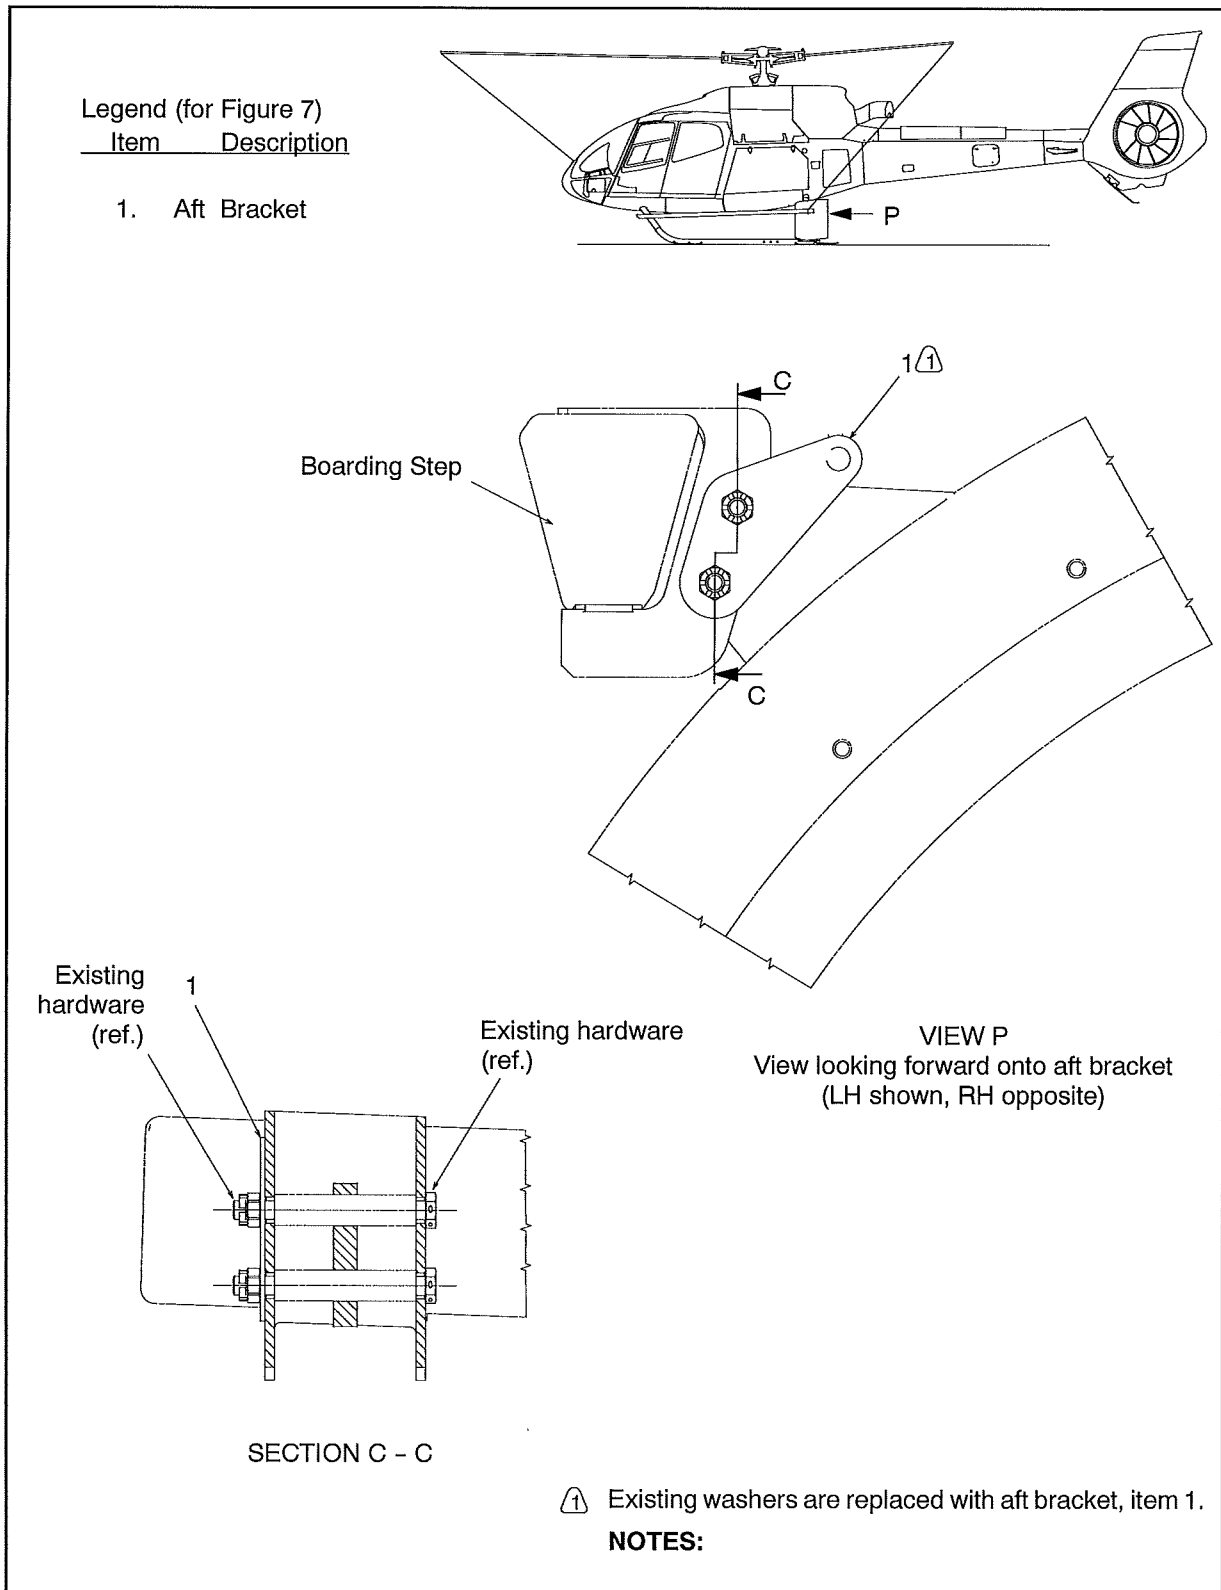

Figure 7 EC 130 Aft Fixed Provisions
Clip the rope assemblies to the aft brackets (1). For the AS 350 / 355, refer to Figure 4. For the EC 130, refer to Figure 7.